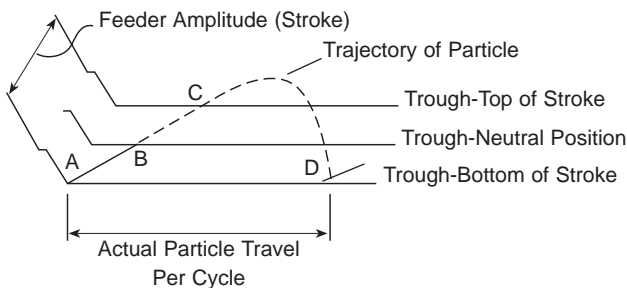

Figure 2 - Material Flow on Trough
Figure 2 illustrates the action of a single particle of material moving along the trough surface. During a vibration cycle, the trough surface travels between its lowest point (A) to its highest limit (C). The trough travels at its greatest velocity between (A) and (B), although still travelling up and forward, the trough decelerates between (B) and (C). On the upward stroke, the particle of material is in contact with the trough from (A) to (B). At point (B) the velocity of the particle becomes greater than the trough and the particle leaves the trough surface on a free flight trajectory from (B) to (D). The particle lands back on the trough surface at a position further forward (D). This completes one cycle. Each cycle imparts a forward and upward motion of the material and it lands further along the trough towards the discharge.